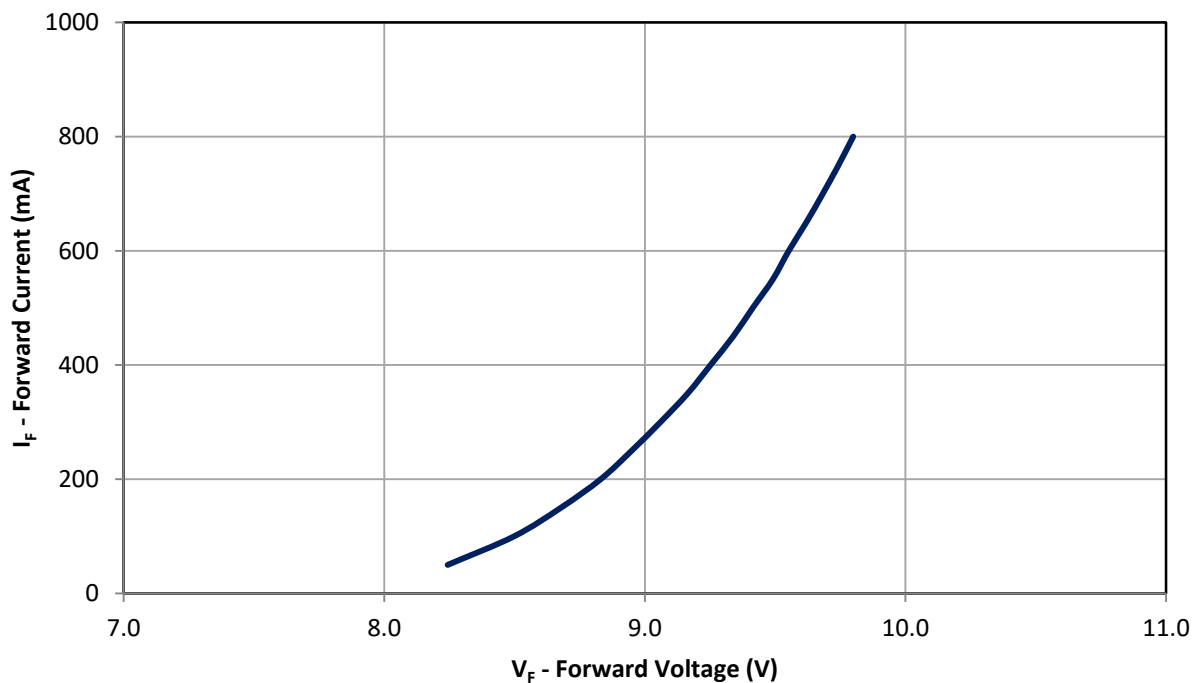

Figure 10: Typical forward current vs. forward voltage¹ @ T_c = 25°C.
- Maximum DC forward current (per die) is determined by the overall thermal resistance and ambient temperature. Follow the curves in Figure 10 for current de-rating.
Note for Figure 10: